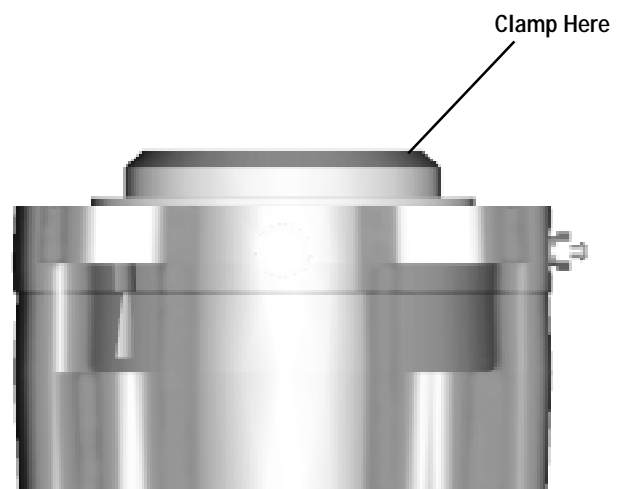

Figure 3
- 9 Remove **bearing-cone (18)**.
**NOTE:** Before **bolts (14)** are removed the brake assembly needs to be clamped together to compress the springs to help remove the **bolts (14)**, see figure 3.